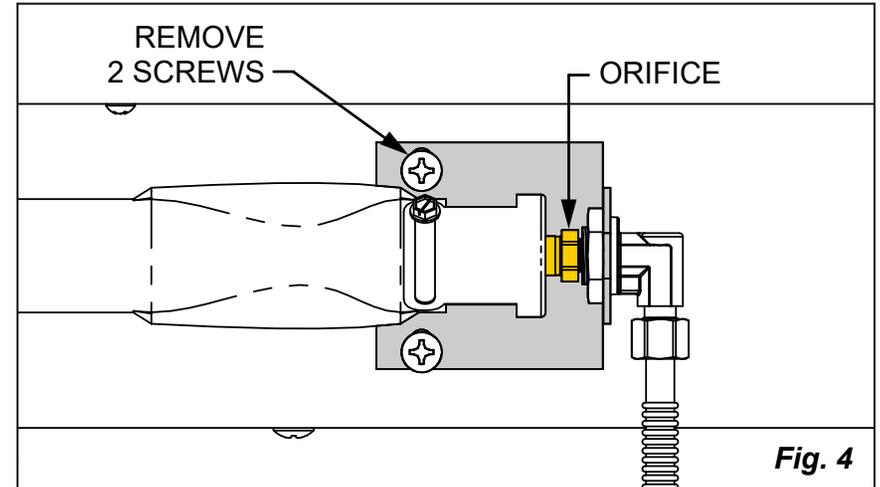

Fig. 4
6. Make a note of how many threads you can see at the base of the orifice. Remove 2 screws on the bracket shown and pull away the bracket/elbow/orifice assembly including the hose. Avoid bending the hose unnecessarily to avoid cracking it. (Fig. 4)